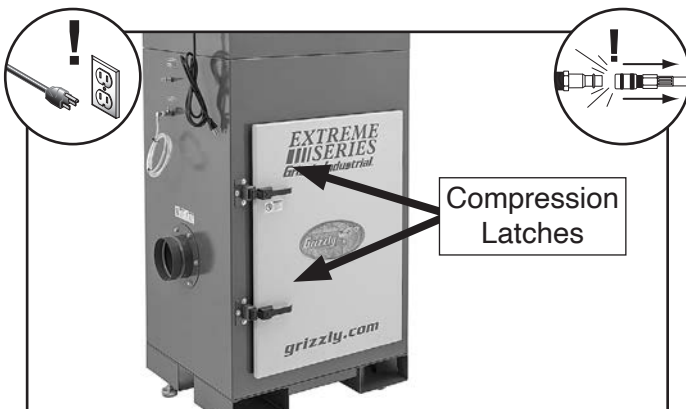

Figure 36. Location of compression latches.
2. Pull to release (2) compression latches and open maintenance door (see **Figure 36**).